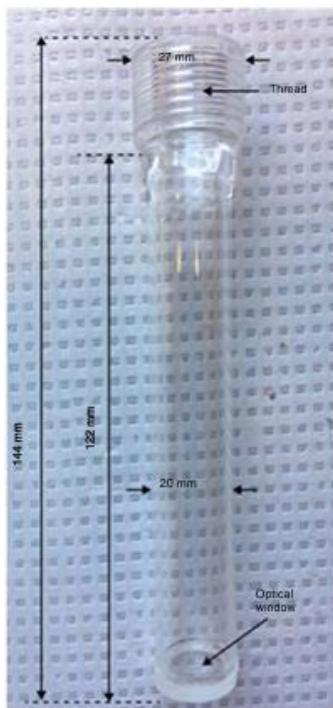

Figure 3: Image showing the size and dimension of ECL cell/cuvette
2.2.) ECL cell assembly (either rectangular or cylindrical) of Sample holder A [Refer Figure 3 of supporting information]